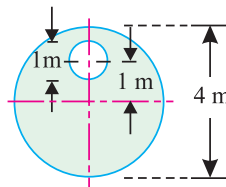

Fig. 35.17.
**Example 35.13.** A circular plate of diameter 4 metres has a circular hole of 1 metre diameter with its centre 1 metre above the centre of the plate as shown in Fig. 35.17.